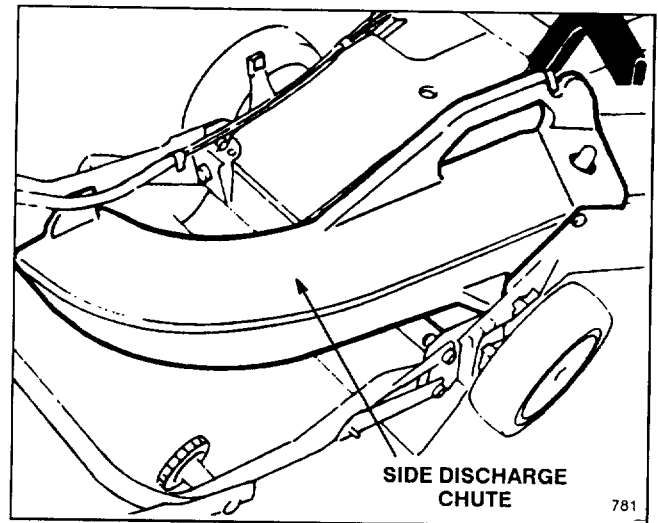

Figure 29
2. **Side Discharge Kit, Model 59189**—Install discharge tunnel and rear mounting side discharge chute to convert Recycler® II mower to a side discharge mower (Fig. 29). Includes discharge tunnel plug.